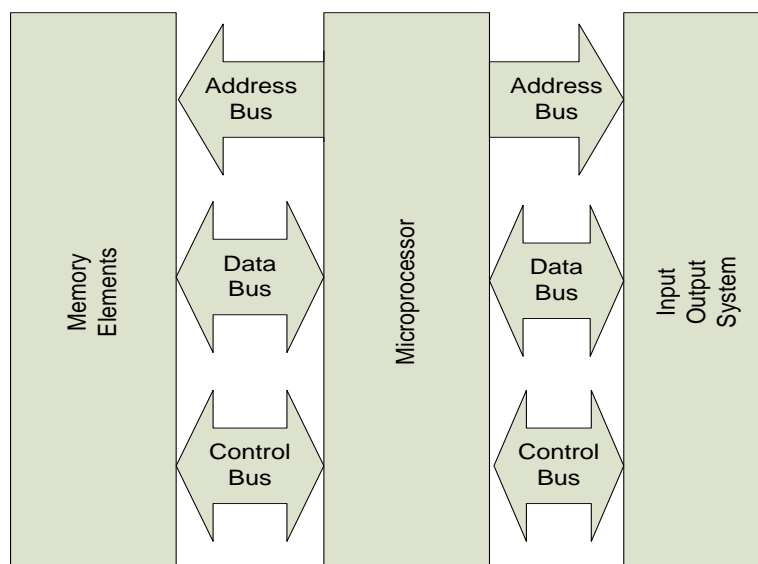

Figure 1
This PIC has all of the elements of Figure 1 above on one integrated circuit (IC) or 'chip' and thus is a self-contained **microcontroller**.